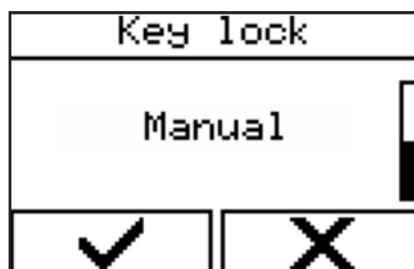

Figure 51 - Setting button lock
2. Select the menu item 'Manual' (Figure 51).